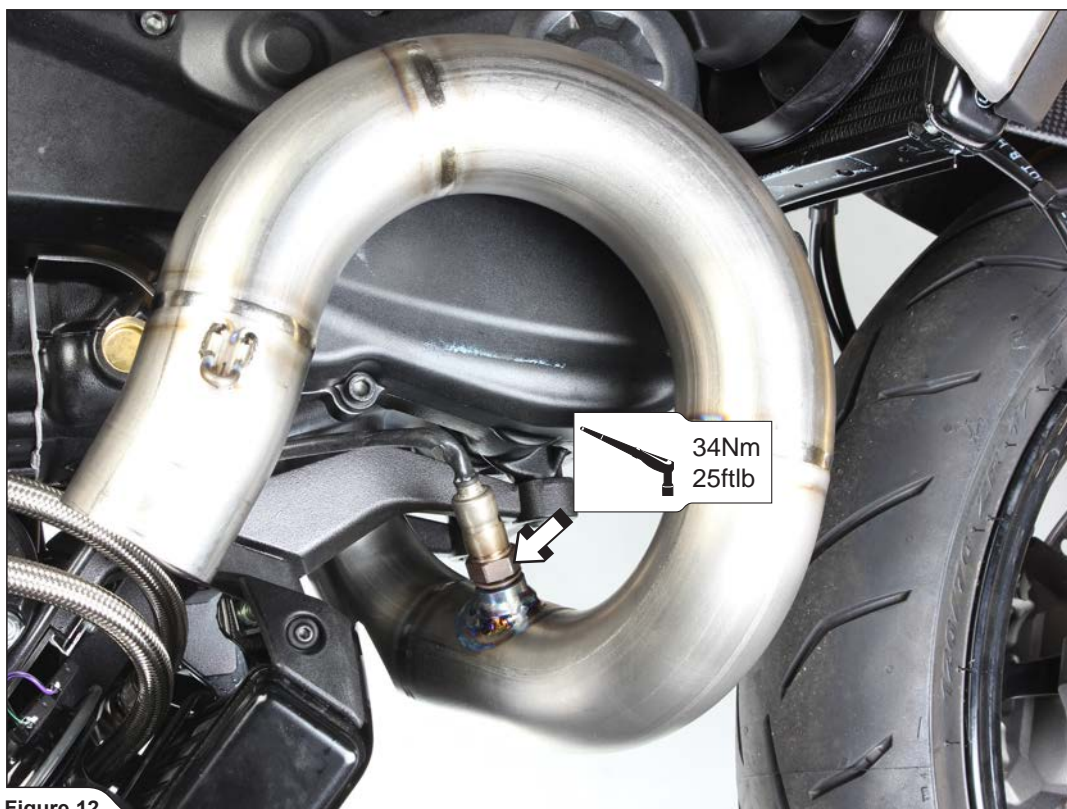

Figure 12
2. Install the lambda sensor into the front header (Figure 12).